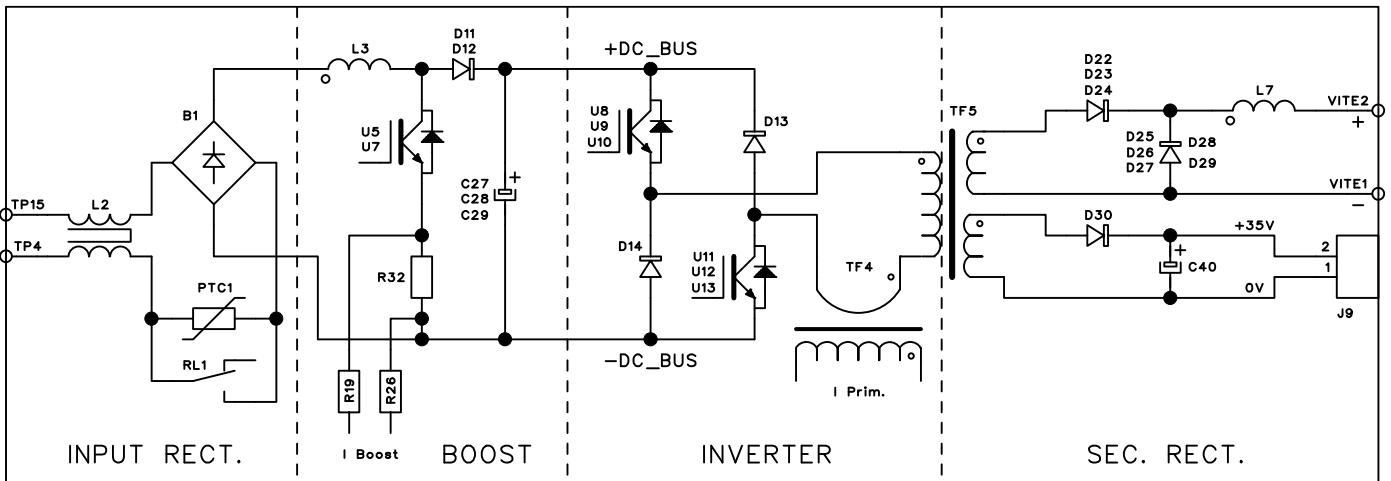

Fig. 2.3.1
More precisely in the power board (45) they can be identified (Fig. 2.3.1):
- the igt inverter, that generates the square wave alternated voltage for the TF5 power transformer, installed on the power board (45);